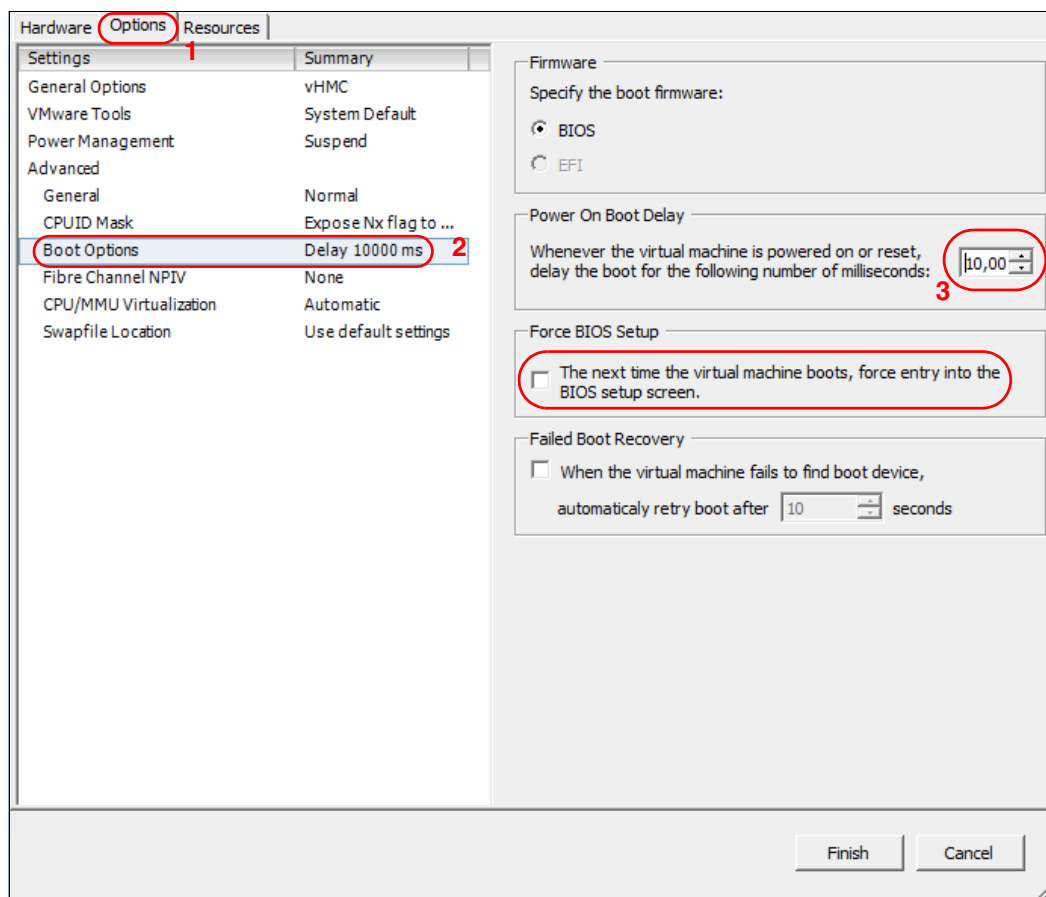

Figure 3-18 Add a boot delay
16. You may also add delays during the boot phase of the VM, in order to be sure you boot from the virtual DVD drive. To do this, select the **Options** tab (Figure 3-18), and change the Power On Boot Delay value. Click **Finish** to create the VM. You also have an option in the same panel to force the VM to enter the BIOS on the next boot, and change the boot list order.